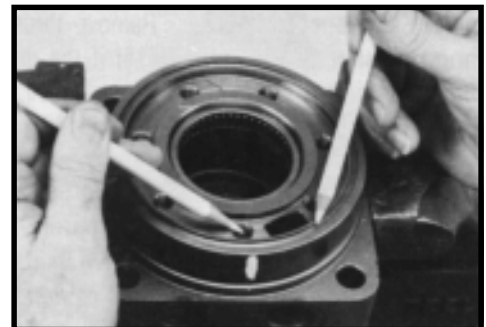

Figure 26
- 20. Inspect housing (18) assembly for cracks, the machined surfaces for nicks, burrs, brinelling or corrosion. Remove burrs that can be removed without changing dimensional characteristics. Inspect tapped holes for thread damage. SEE FIGURE 26. If the housing is defective in these areas, discard the housing assembly.